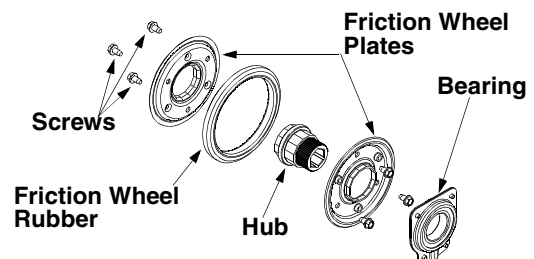

Figure 33
- Reassemble new friction wheel rubber to the friction wheel assembly, tightening the six screws in rotation and with equal force. See Figure 33. Assemble the rubber on the friction wheel equally for proper functioning.